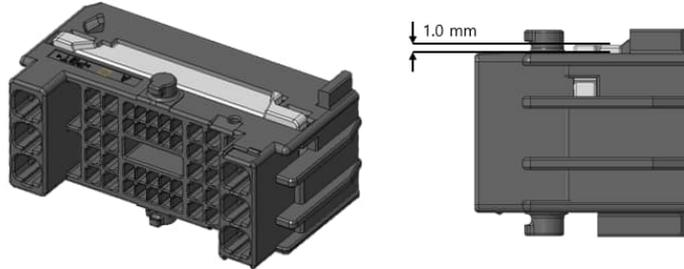
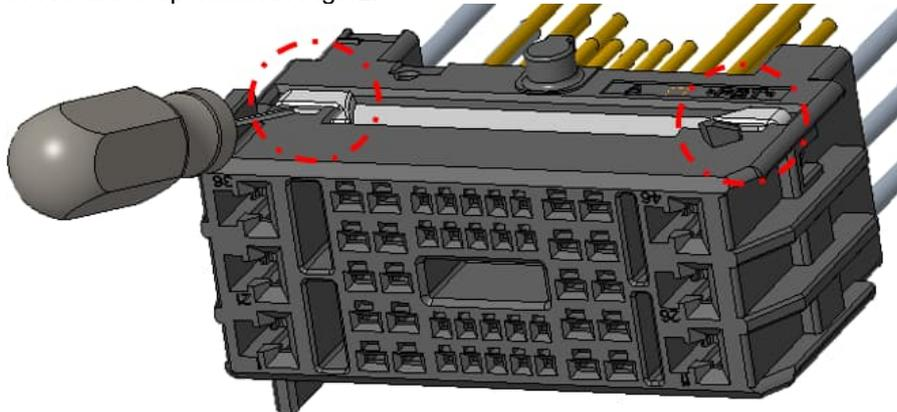

Fig. 9
Fig. 12
(1) Check TPA is in pre-lock condition as shown in Fig.9. The contact cannot be inserted in case of the final lock condition so do it again after rework.
In case of Female Contact insertion or extraction, TPA is extracted to Pre-Lock condition (see Fig.9). Release both side of TPA, then lift it to outside direction. Refer to TPA release operation in Fig.12.